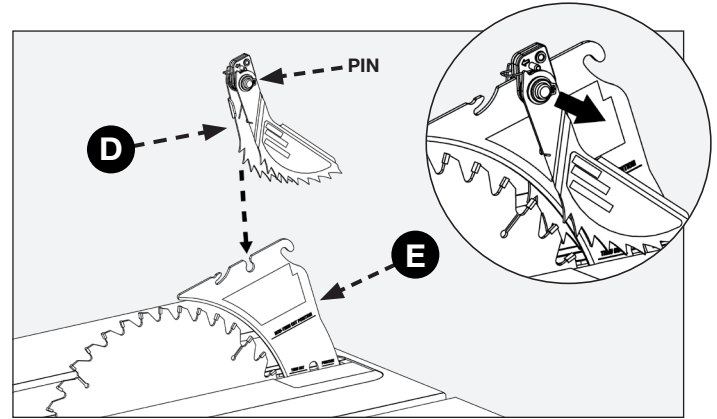

FIGURE 17
Riving knife (E) must be in the Through Cut position prior to installation of the anti-kickback pawls (D) and blade guard (F) (Fig. 17 and 18).
Insert the pawl assembly (D) into the middle slot on the riving knife (E) as shown in (Fig. 17) while pressing the spring-loaded pin on the right side of the pawl assembly.
Once inserted, release the spring-loaded pin so that it pops back in to place (Fig. 17). Ensure that it is locked in place.